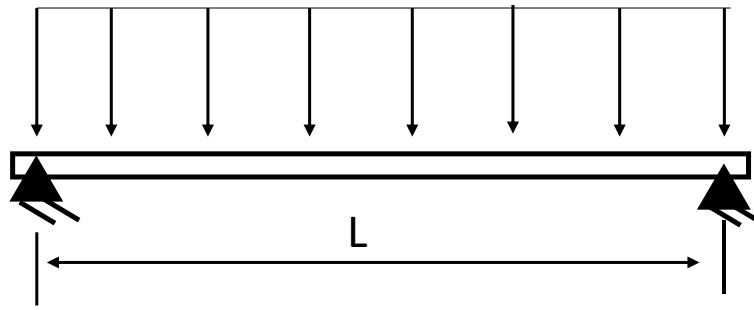

Fig. 2b
b) For the beam shown in Fig. 2b obtain the maximum deflection using Rayleigh-Ritz method. **12**